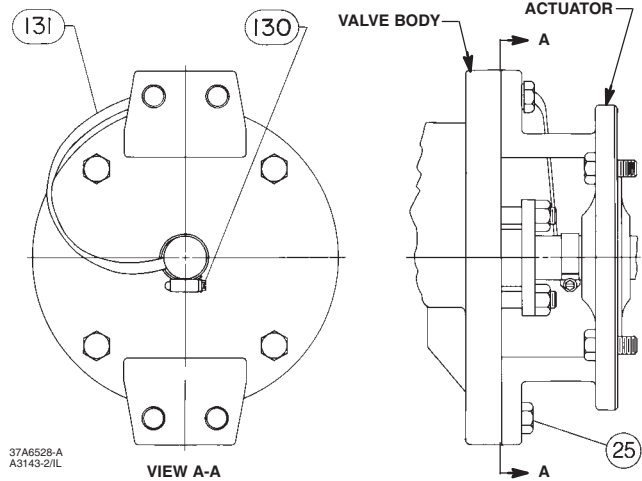

Figure 6. Optional Shaft-to-Valve Body Bonding Strap Assembly
4. Attach the bonding strap assembly (key 131, figure 6) to the shaft with the clamp (key 130, figure 6).